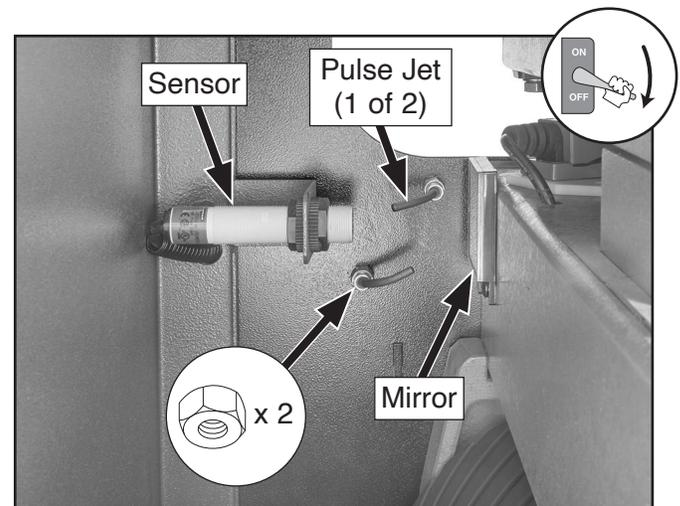

Figure 81. Pulse jets aimed correctly at eye and mirror.
3. Loosen hex nut on each pulse jet shown in **Figure 81**.
4. Wipe off eye and mirror, and adjust aim of upper pulse jet so it points directly at electronic eye sensor and adjust lower pulse jet so it points at center of mirror (see **Figure 81**).